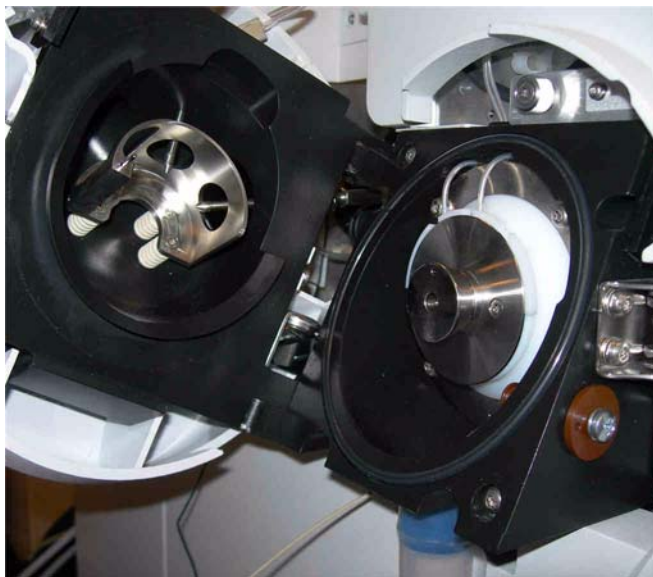

Figure 6 Opened electrospray spray chamber
- 4 Open the spray chamber (Figure 6).